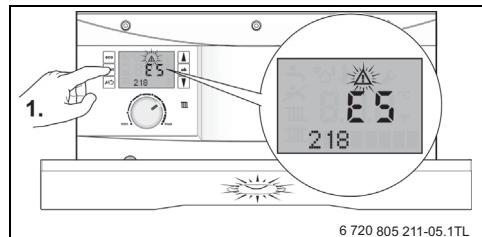

Fig. 8
1. A fault condition is indicated by a flashing blue operation/fault light and an triangular alert symbol on the display. A flashing **fault code** is also displayed, see figure 8. This type of fault can often be cleared by pressing the Reset button .
- ▶ Make a note of these fault codes, in the table below as an example see figure 8, fault codes E5 and 218.